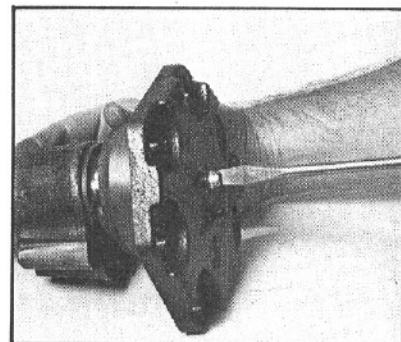

Figure 134
33. Apply a generous amount of clean grease to the short bearing area of the sector shaft (50). Insert the sector shaft into the side cover (58). Screw in the sector shaft adjusting screw (51) counter-clockwise in the side cover until the screw reaches solid height (FIG. 134). Then, rotate the adjusting screw clockwise one turn, so that the side cover will rotate freely on the sector shaft.